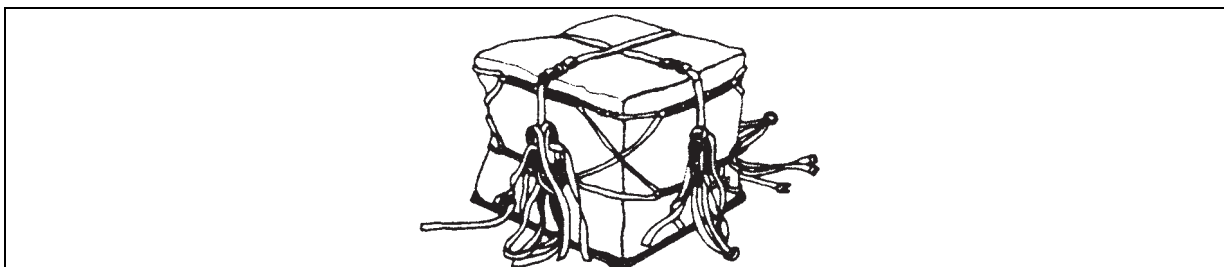
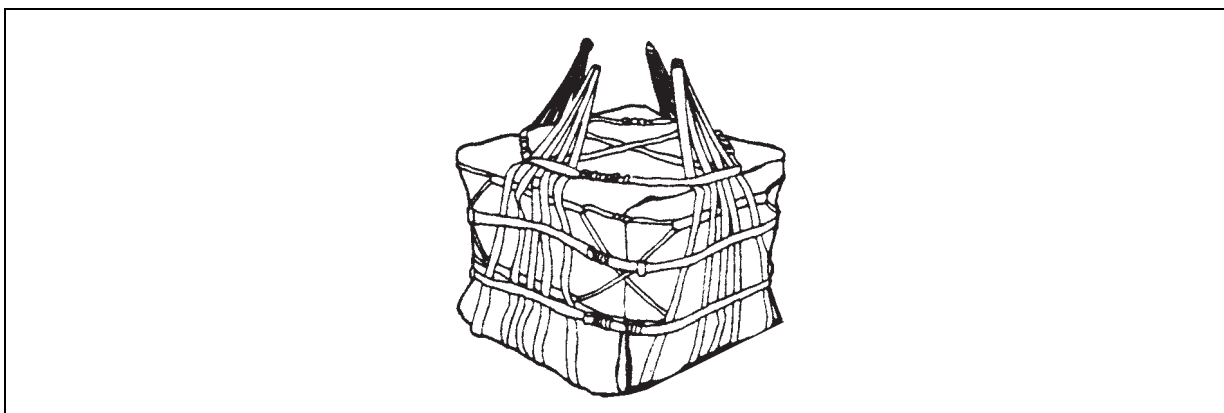

Figure 8-4. Strap Secured
Figure 8-5. Upper Lateral Straps Fastened
- **Closing the Sling Assembly.** Route the 188-inch strap over top of the load. Route the free end under the floating safety bar (smooth side) and back over the friction adapter (rough side). Tighten the strap, fold in 4 to 5 inch loops, and secure (figure 8-4). Pull the lower lateral straps to the corners of the load. Route the free end under the floating bar and back over the friction adapter. Attempt to tighten all four lower lateral straps equally. Repeat this step using the middle lateral straps. Fasten the upper lateral straps in the same manner as in figure 8-5. If the load is not high enough for the upper lateral straps to go around the side of the load, pull the suspension webs to their full height and fasten the upper straps diagonally across the top corner of the load. Strap fasteners should be tightened to within 4 to 5 inches of the upper lifting legs.